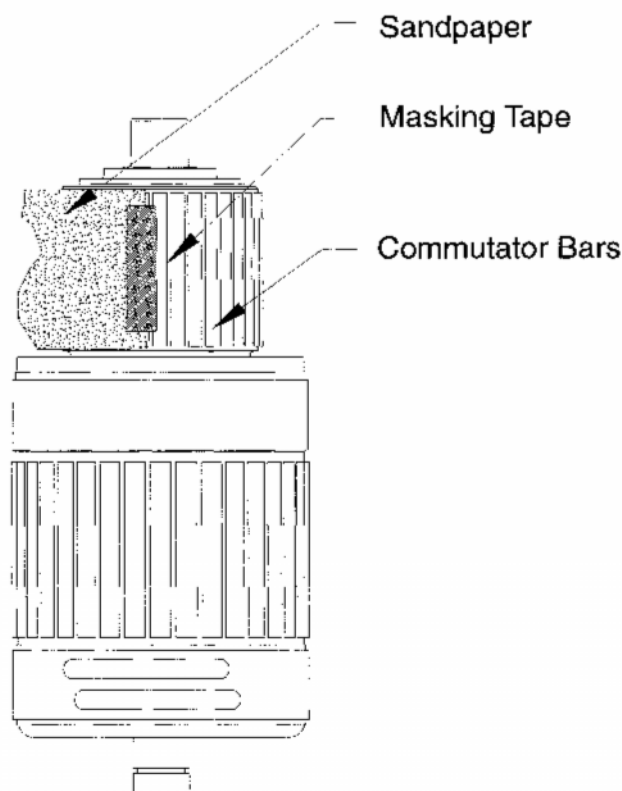

Figure 11 - Attaching the Sandpaper
- (3) Tape the leading edge of the sandpaper to the clean commutator bars with masking tape. (Ref Figure 11)
- (4) Carefully turn the drive shaft in the direction of rotation with a spline wrench so the sandpaper strip wraps around the commutator until the trailing edge of the sandpaper covers the masking tape.